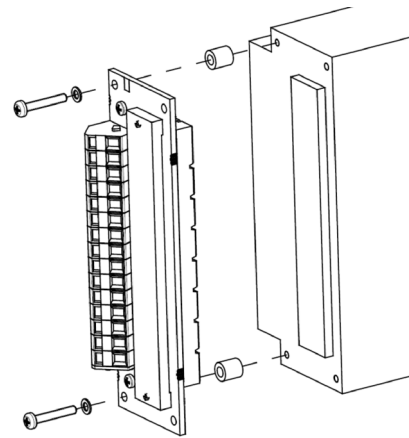

Fig. 33
- Cage clamp adapter HZZ00144-G; see fig. 33.